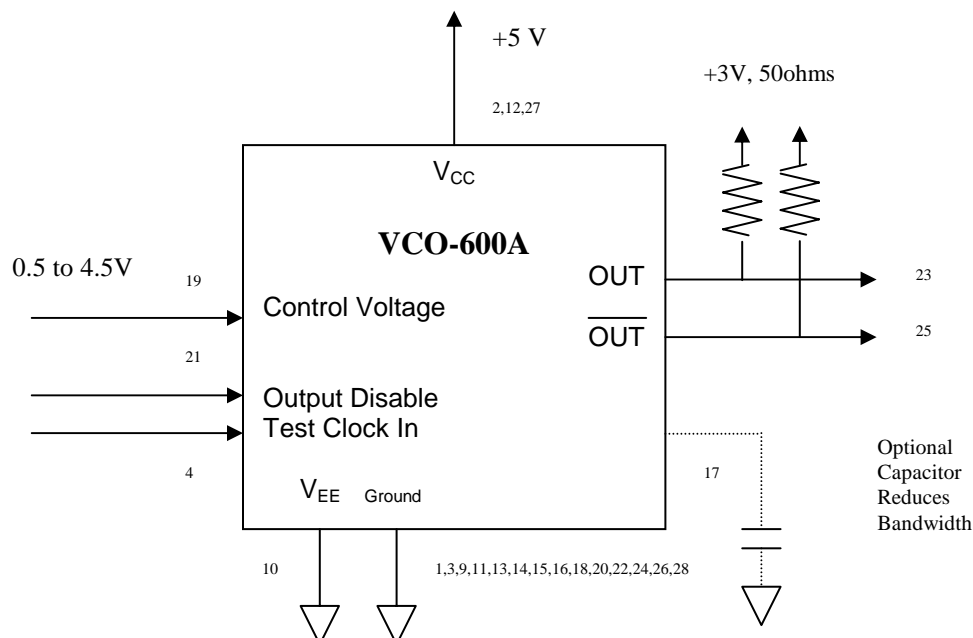
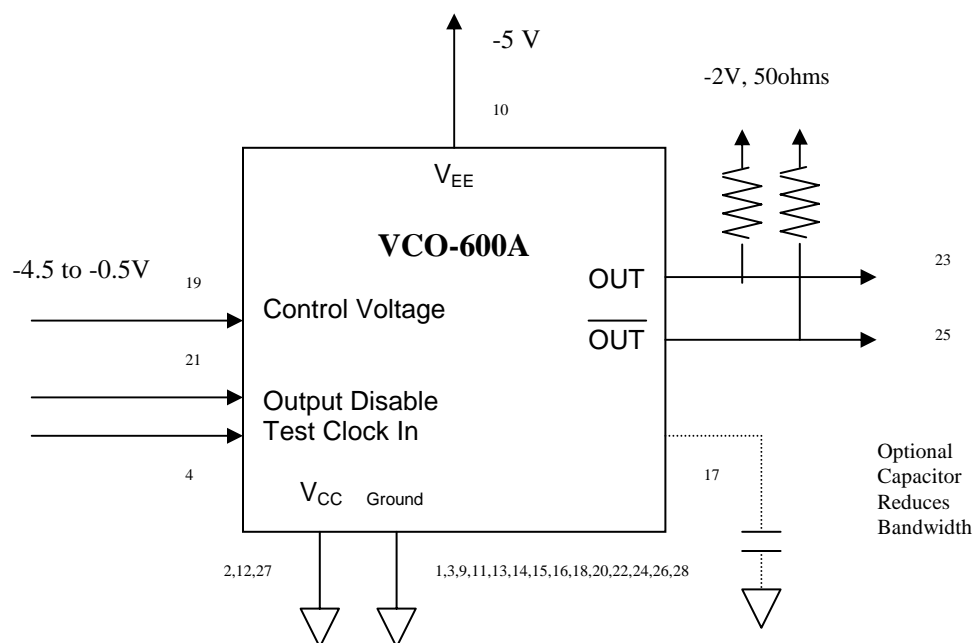

Figure 1. PECL Operation
Figure 2. ECL Operation
4. The modulation bandwidth is a function of nominal center frequency and may be adjusted down through the use of an external capacitor on pin 17. Please see Figure 1 and Figure 2 along with Notes 1, 2 and 3.